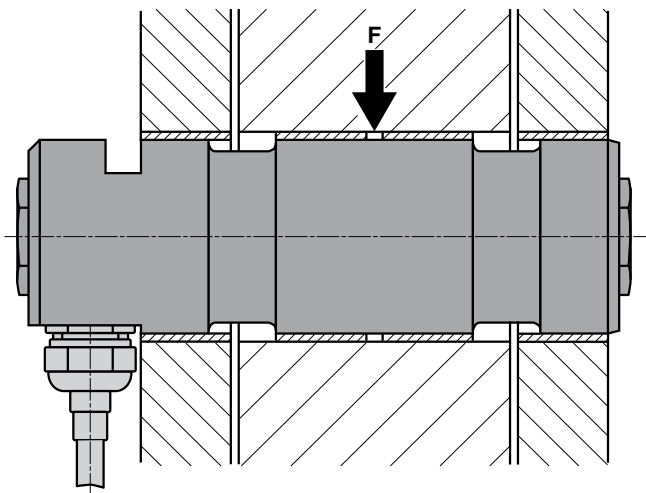

Fig. 2-1. Load measuring pin mounted in its seat
- Ensure a rigid mounting. The lateral supports should not move with respect to each other when load is applied (*see Fig. 2-1*). Elastic mounting, entailing parasitic forces on the load measuring pin, should be avoided by all means.
- The play between the lateral supports and the linking element (*see Fig. 2-1*) should be limited to values between 0.5 mm and 1 mm. If these parts are pressed against each other, the induced strong lateral contact pressure produces too strong a friction on the gliding surface, thus impeding optimal force transmission to the load measuring pin.
- Use slide (*see Fig. 2-1*) or roller bearings.